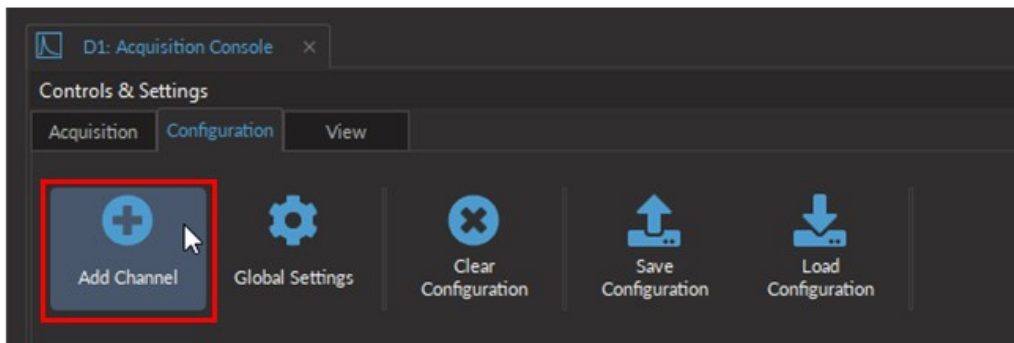
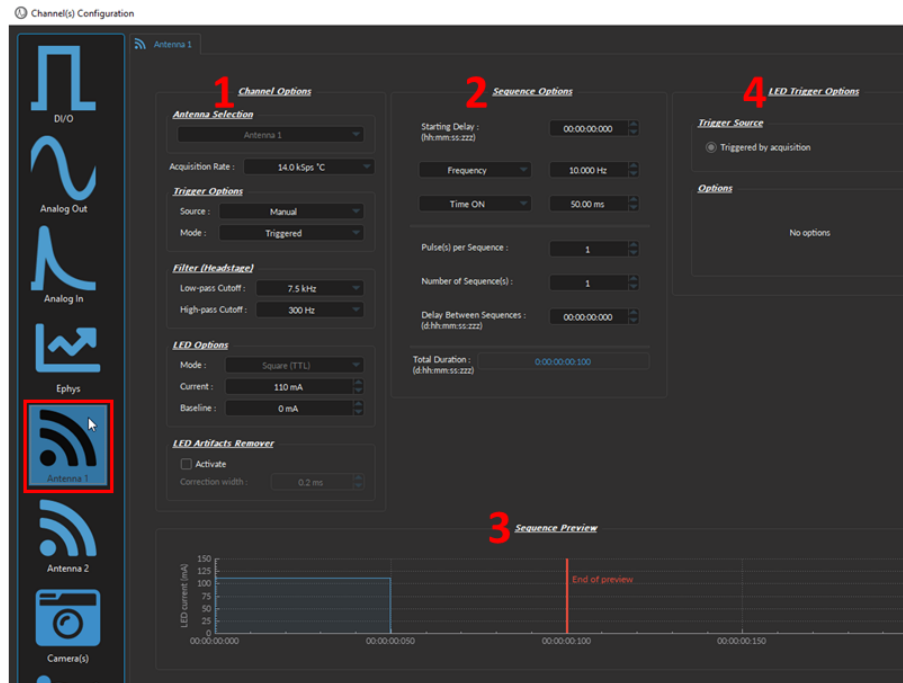

Figure 9.11: Add Channel button opens the Channel Configuration window
Figure 9.13: Electrophysiology channel configuration window
To create a new channel, regardless of the input and/or output type, select the **Add Channel** button, which can be found under the **Configuration** tab (Fig. 9.11). This will open the **Channel(s) Configuration** window (Fig. 9.13).
Different types of input and output can be configured for the particular of the experiment by creating a new Channel in the Configuration tab or editing an existing one (Fig 9.11). Table 9.1 details the types of inputs and output the console and the software can handle and gives a quick access to their sections.
The *Channel(s) Configuration* window for the Antenna Channel is divided into four sections (Fig. 9.13): (1) the **Channel Options** (Section 9.4.3.1), (2) the **Sequence Options** & (3) **Preview** (both treated in Section 9.4.3.3), and (4) the **LED Trigger Options** (Section 9.4.3.2).
The *Channel(s) Configuration* window for the **Digital I/O** Channel is divided into three sections (Fig. 9.13): (1) the **Channel Options** (Section 9.4.4.1), (2) the **Sequence Options** & (3) **Preview** (both treated in Section 9.4.4.2).